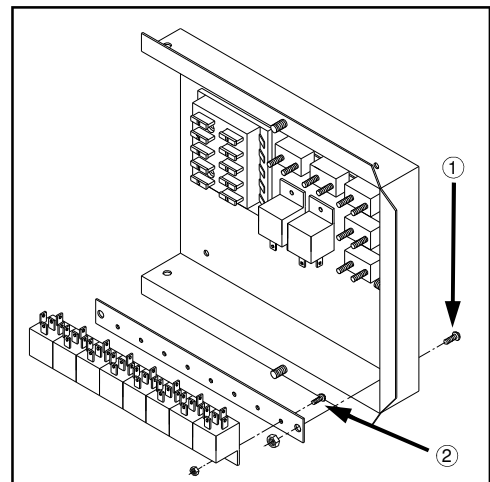

FIG 8.43
If it is necessary to remove a relay, tag all the wires going to that relay. Remove the two bolts that mount the relay panel to the electrical panel (fig. 8.43, item 1). Then unbolt the individual relay by removing the relay bolt (fig. 8.43, item 2) that holds it to the relay panel.